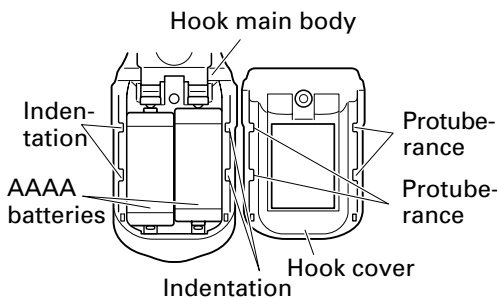

Fig. 15
- (2) Remove the old batteries and insert the new batteries. Align with the hook indications and position the plus (+) and minus (-) terminals correctly. (Fig. 15)